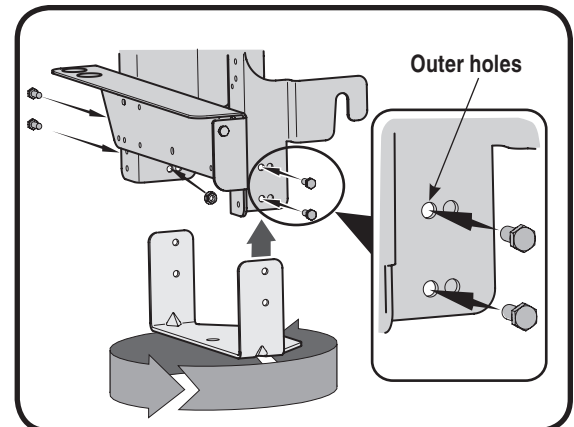

Figure 3-6
2. Rotate the hitch plate 180° from its original position. Re-insert the four bolts through mounting bracket and hitch plate frame and secure with nuts removed earlier. Use the outer holes (furthest from the mounting hooks) on the mounting bracket. See Fig. 3-6.